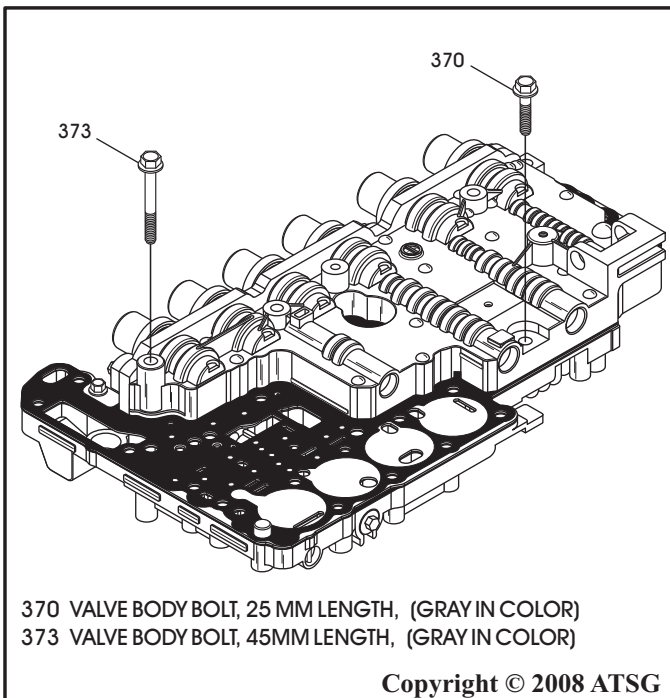

Figure 171
27. Turn the valve body assembly over and install one non-plated, 25mm length and 1 non-plated 45mm length valve body bolt, in the locations shown in Figure 171, and torque both bolts to 11 N•m (97 in.lb.).